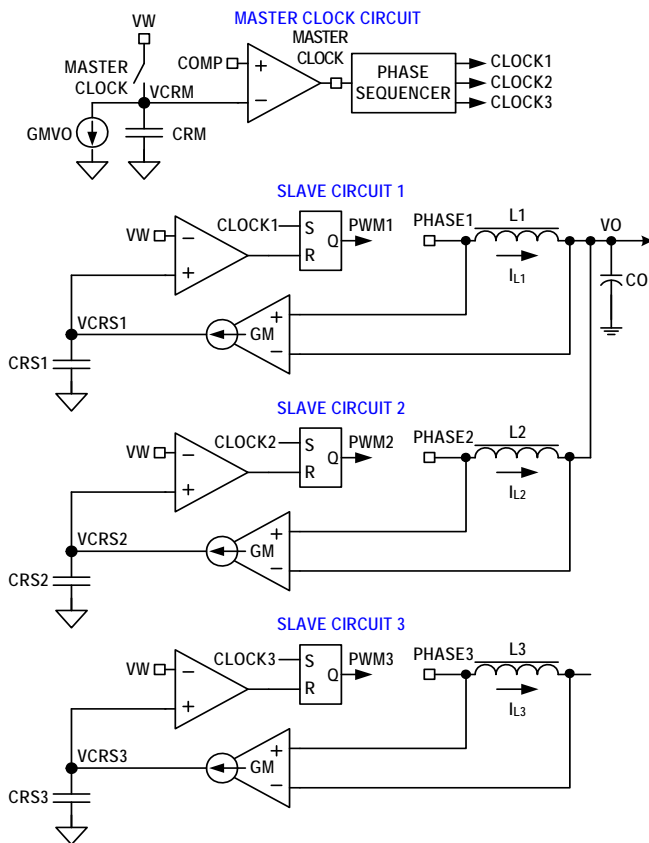
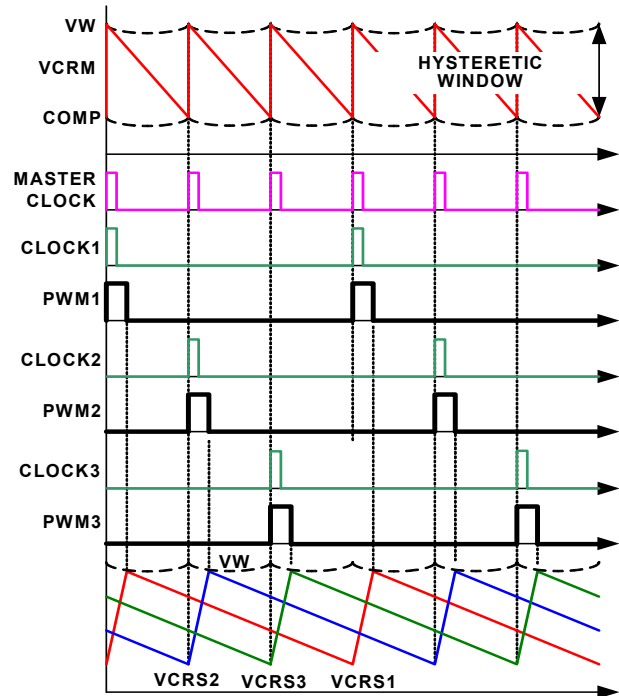

FIGURE 6. R3™ MODULATOR CIRCUIT
FIGURE 7. R3™ MODULATOR OPERATION PRINCIPLES IN STEADY STATE
The ISL6377 is a multiphase regulator implementing two voltage regulators, CORE VR and Northbridge (NB) VR, on one chip controlled by AMD's™ SVI2™ protocol. The CORE VR can be programmed for 1-, 2-, 3- or 4-phase operation. The Northbridge VR can be configured for 1- or 2-phase operation. Both regulators use the Intersil patented R3™ (Robust Ripple Regulator) modulator. The R3™ modulator combines the best features of fixed frequency PWM and hysteretic PWM while eliminating many of their shortcomings. Figure 6 conceptually shows the multiphase R3™ modulator circuit, and Figure 7 shows the operation principles.